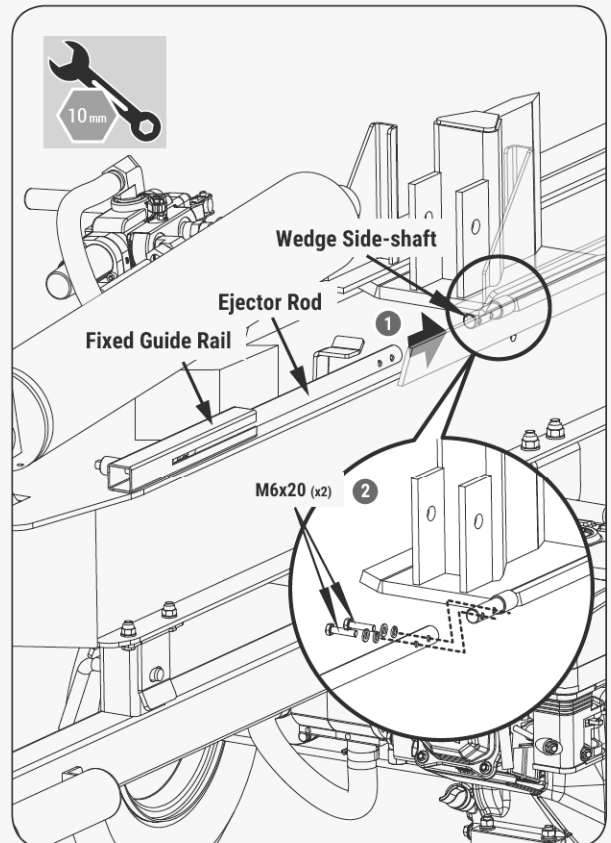

Figure 13
1. Let the ejector rod go through the fixed guide rail. Align the holes in the front end of the ejector rod with the holes in the wedge side-shaft. (See **Figure 13, illustration 1.**)
2. Fasten the ejector rod with the wedge side-shaft. (See **Figure 13, illustration 2.**)